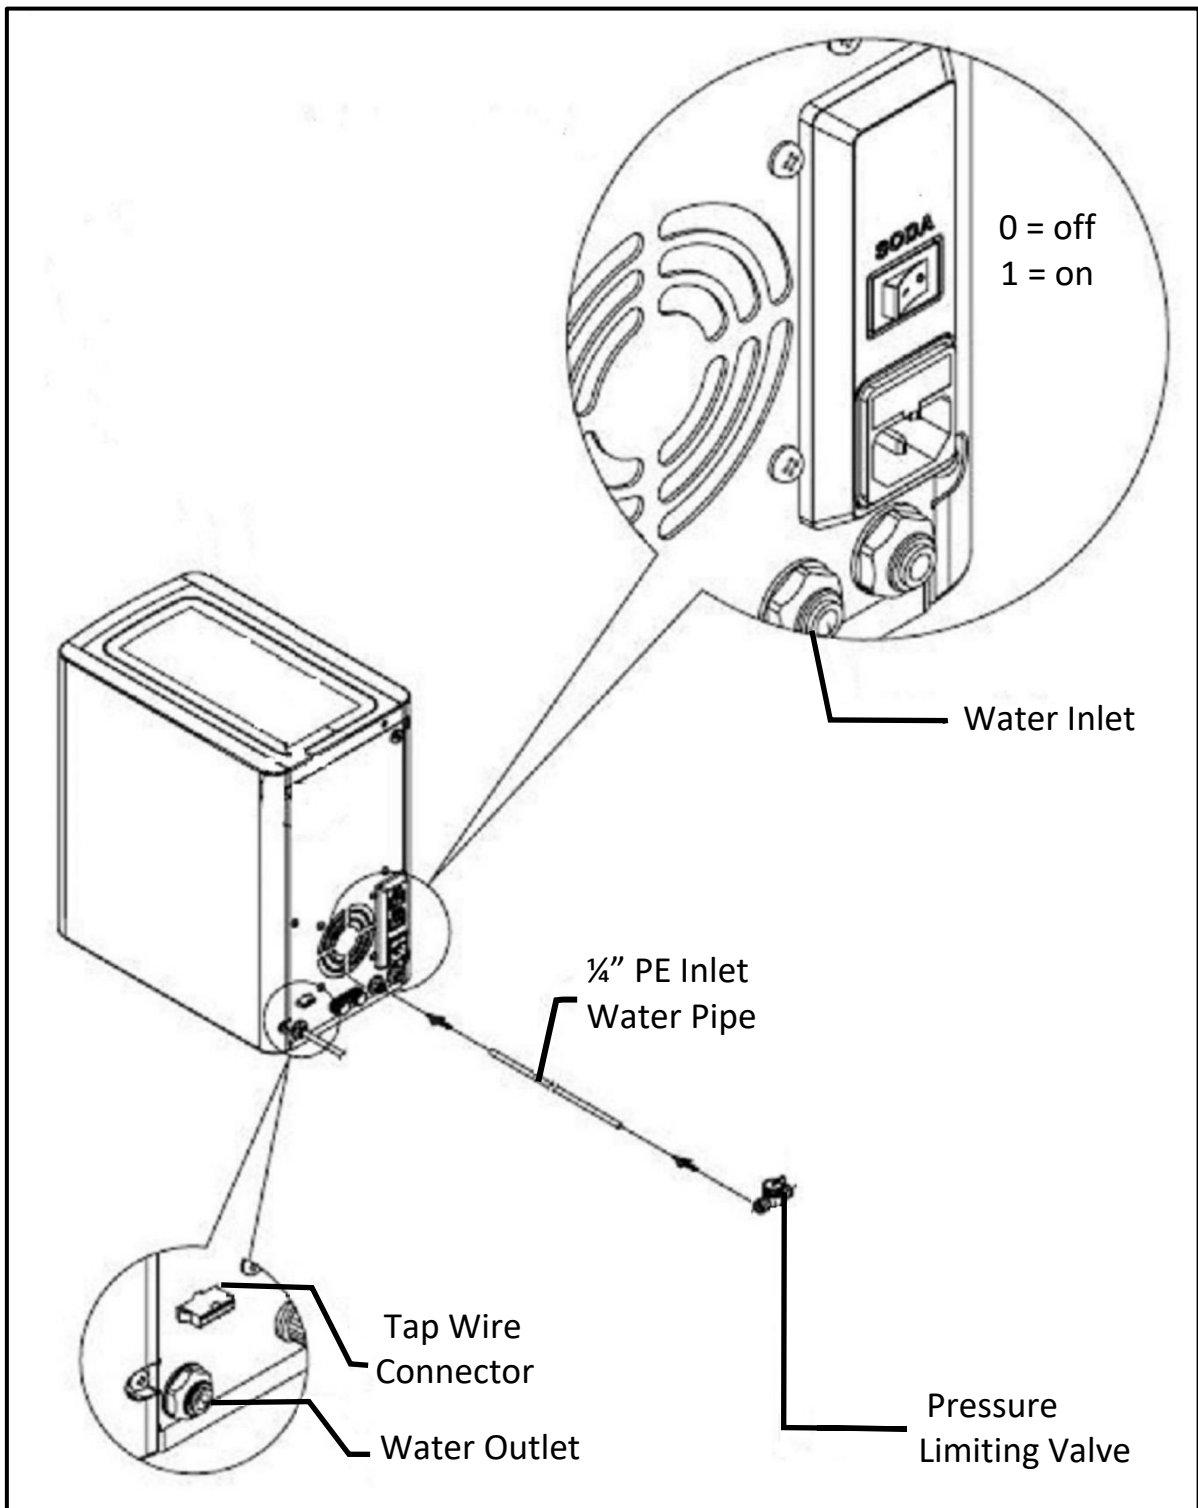
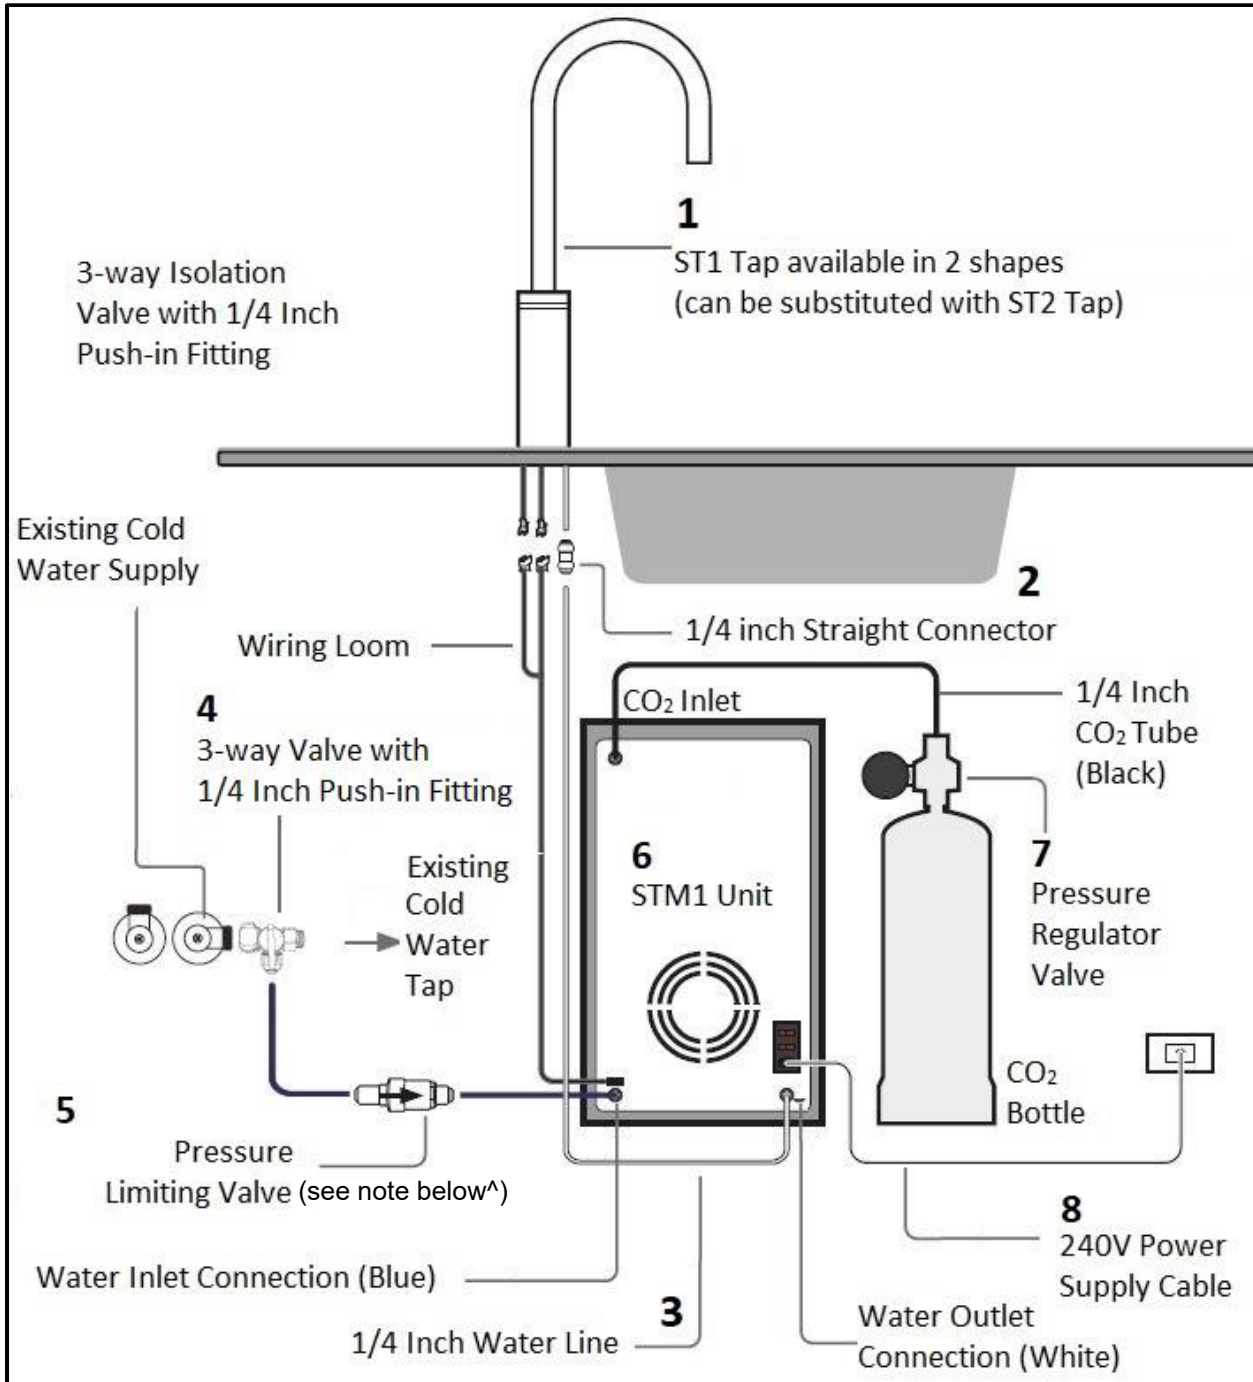

Figure 7: STM1 Unit Plumbing
Figure 8: Complete STM1 Installation (ST1 tap and parts as listed)
The following instructions refer to the diagrams in Figure 7: *STM1 Unit Plumbing* and Figure 8: *Complete STM1 Installation (ST1 tap and parts as listed)*.
3. Connect the inlet of the pressure limiting valve to the outlet of the 3-way valve using a suitable length of the supplied tubing. Observe the water flow direction as illustrated in Figure 8: *Complete STM1 Installation (ST1 tap and parts as listed)*.